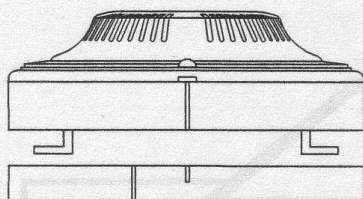

Figure 4: Alignment of detector head and its base.
- (1) up the position of head to the base, see Figure 4.
- (2) Screw the detector head into the base in clockwise direction.